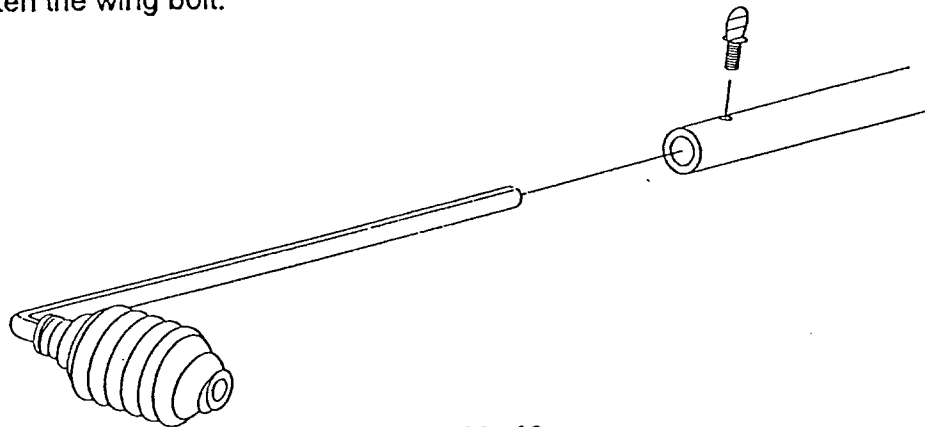

FIG. 13
5. If using brick facing, it will be necessary to lengthen the damper rod to allow for the extra depth of the brick facing. To lengthen: See Figure 13.